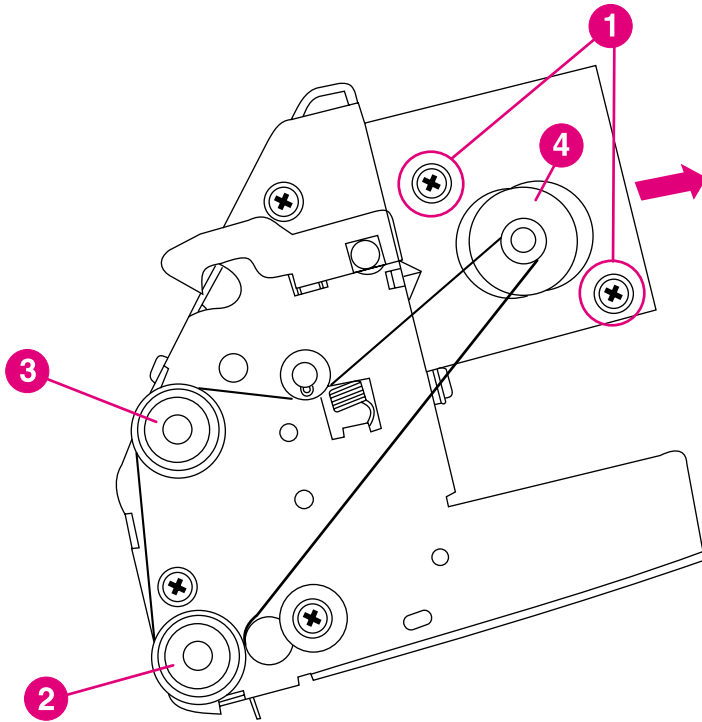

Figure 6-238 ADF Belt
- 1 Make sure the 2 screws (callout 1 in Figure 6-238) on the ADF Motor Unit are loose when you adjust the belt tension.